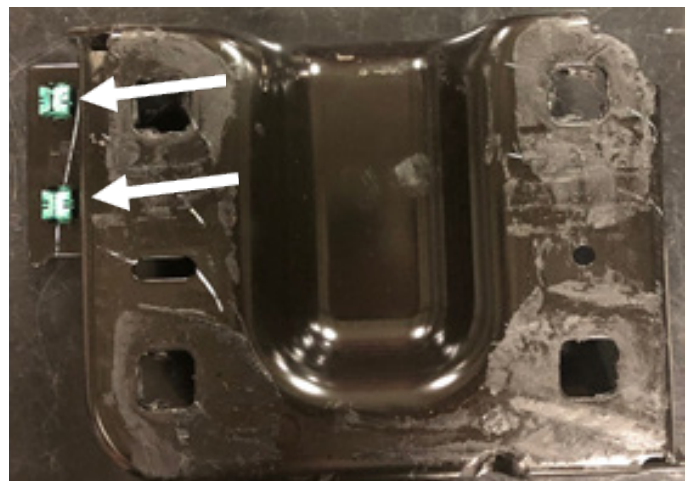

Figure 16
15. Use a pair of pliers to remove the two (2) clip nuts from both mounting plates to use in the bumper install. Figure 16.